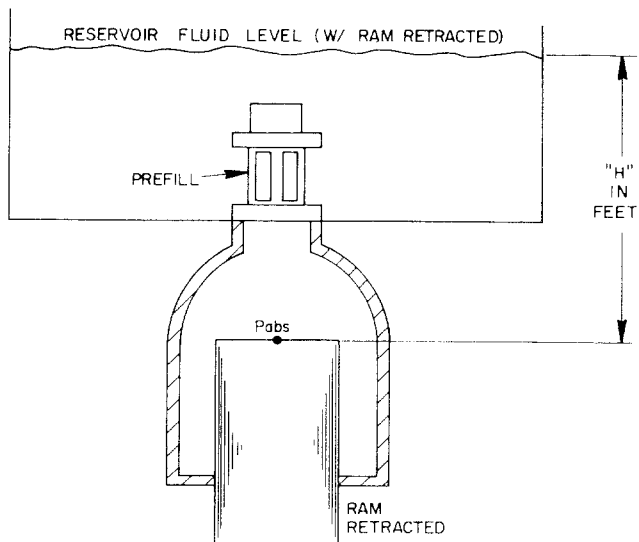

Fig. 1 Prefill installed in reservoir and directly connected to cylinder.
■ Refer to figures 1, or 2, or 3. Determine head "H" (in feet) between ram and level of fluid in reservoir.
See figures 1 or 2 or 3.
See figure 1 through 3 with reference to the Line Head Loss vs Flow for the pipe size involved.